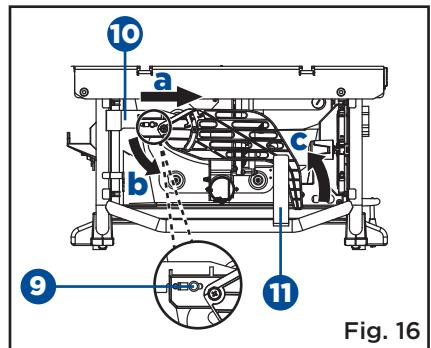
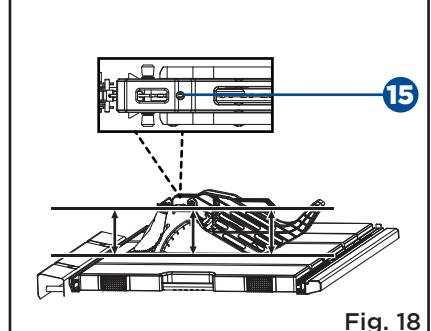

Fig. 16
Fig. 18
- Hold the knobs (9) (one on either side of the blade guard) and push the knobs forward to the front of the blade guard and down until the pin comes out from the notch in the mounting bracket (blade guard storage I) (10) at top left rear side of the saw, then raise the blade guard up from the U-bracket (blade guard storage II) (11) at bottom right rear side of the saw and remove the blade guard from the blade guard storage. (Fig. 16)
- Hold and push knobs (9) forward to the front of the the blade guard. Place the pin (12) on the blade guard (13) into the notch (14) indicated on the riving knife (6).
Make sure that blade guard body is parallel to the table. If it is not, adjust the set screw (15) as necessary. (Fig. 18)